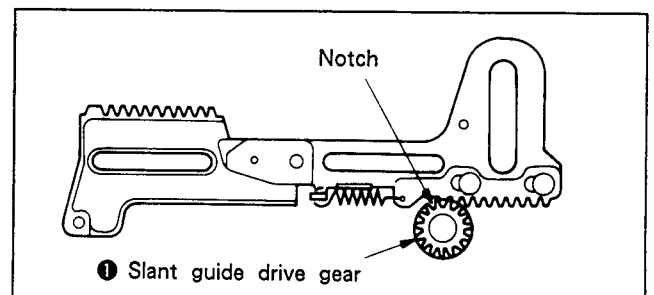

Fig. 7-32.
- 3) Mount the L slider assembly ⑤ while pushing the RL arm assembly protrusion ④ in the direction of the arrow.
- 4) Fix the two stopper washers ③.
- 5) Put the arm assembly ② pin into the M slider groove. (See 7-3-15. M Slider.)
- 6) Refer to 7-3-4. 2. Mounting, 2), and insert the arm assembly ② pin in the tension regulator arm assembly cam groove. (See 7-3-4. Tension Regulator Arm Assembly.)
- 8) Engage the slant guide drive gear ① so that the notch is 1 tooth away from the L slider assembly left side tooth. (See Fig. 7-32.)
- 9) Mount the entrance guide (P) assembly according to 7-3-10. 2. Mounting.